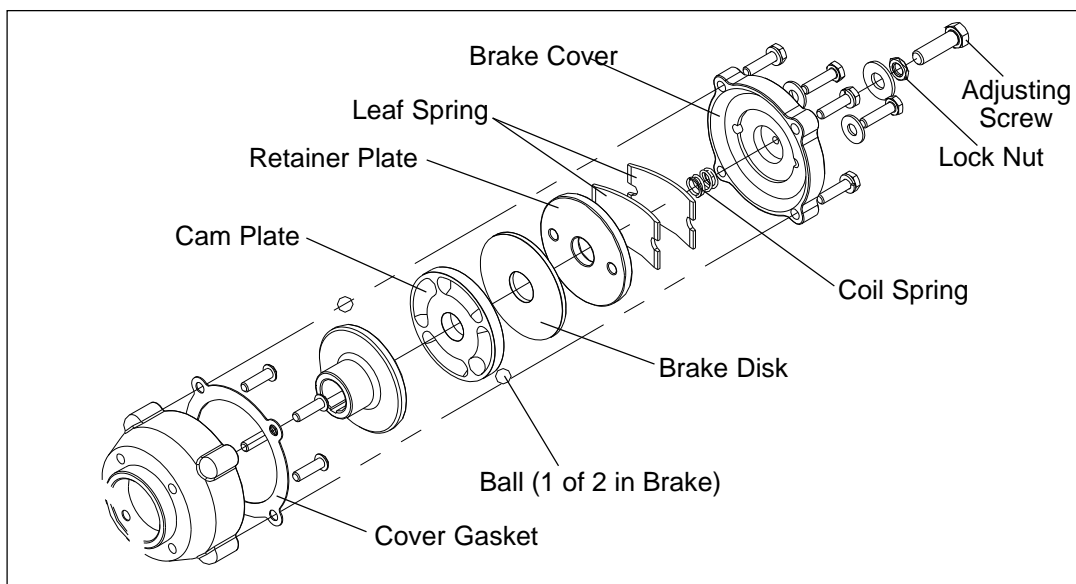

Figure 3 — Altec or Ramsey Winch Parts
26. Remove the coil spring and two leaf springs from the brake assembly (refer to Figure 3).